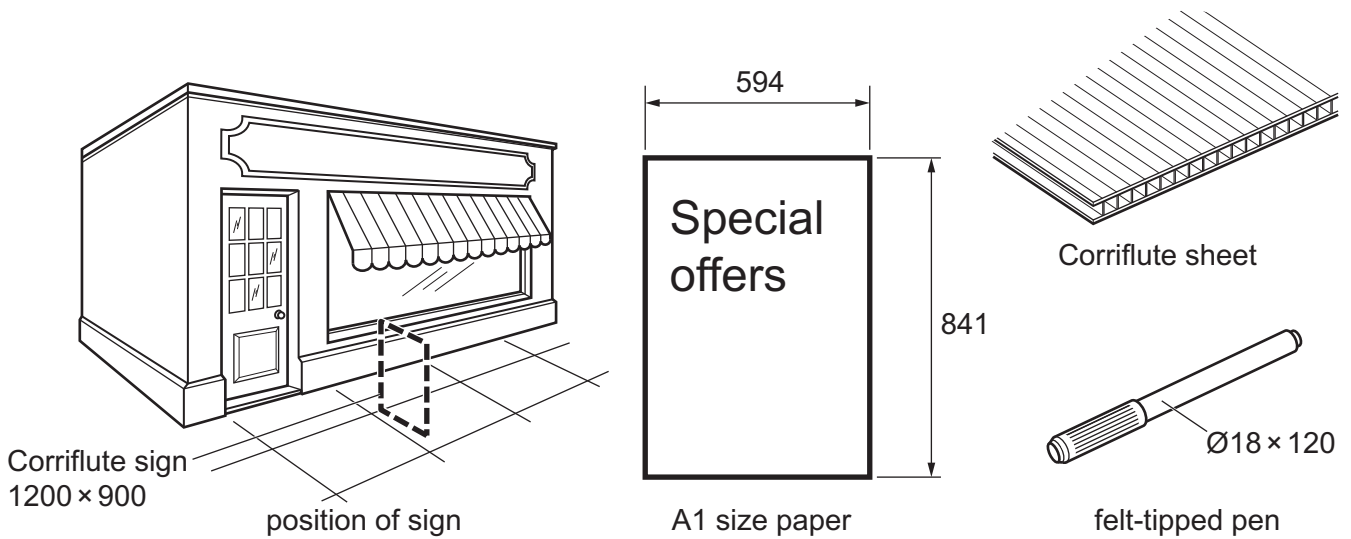

Fig. 8.1
- 8 Fig. 8.1 shows details of a freestanding sign that is to be made from Corriflute. The sign will be used outside a shop to advertise special offers.
- (a) Use notes and sketches to **develop** a design for a freestanding Corriflute sign of the size shown in Fig. 8.1. The sign must be formed from a one-piece development (net). [20]
- (c) Use notes and sketches to **develop** a design for a method of attaching an A1 size sheet of paper onto the freestanding Corriflute sign designed in **part (a)**. The method of attachment must also include a means of holding the felt-tipped pen shown in Fig. 8.1. [20]